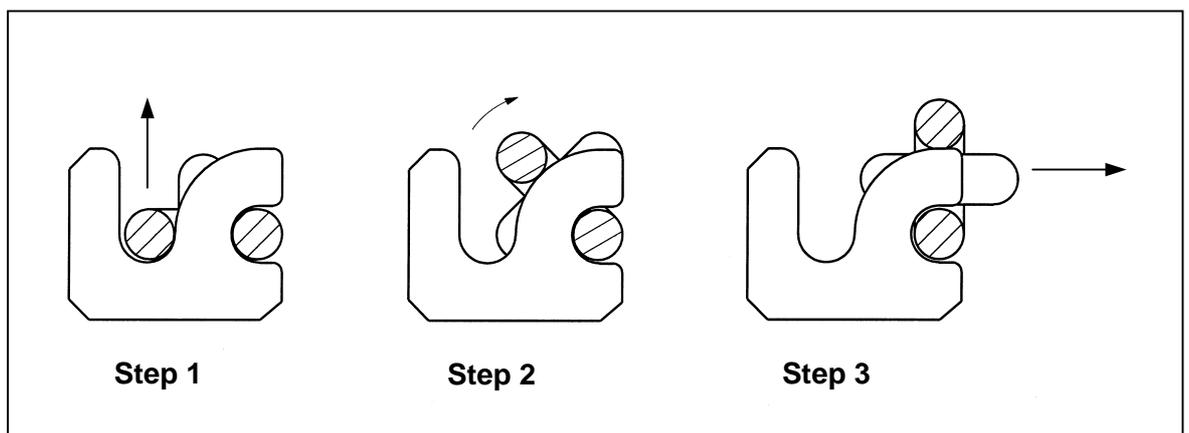

Fig. 5
3. Hook the chain link out of the attachment/scrapper bar (fig. 5).